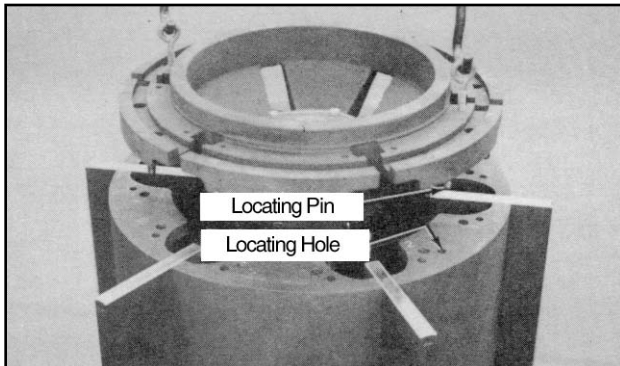

Figure 29
- Using a suitable lifting device, lift off the cover, Figure 29. Note position of location pin and hole to assure proper positioning during assembly.